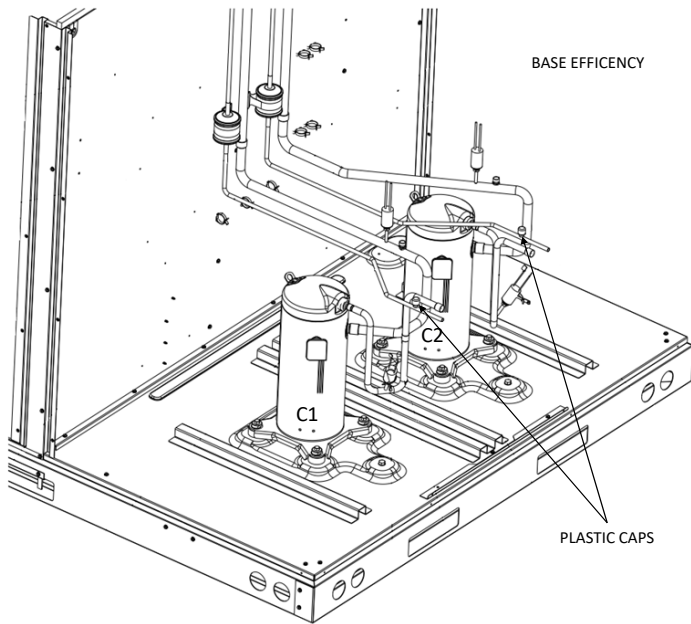

FIGURE 25
7. Remove the plastic caps from the two liquid line access fittings. See Figure 25.